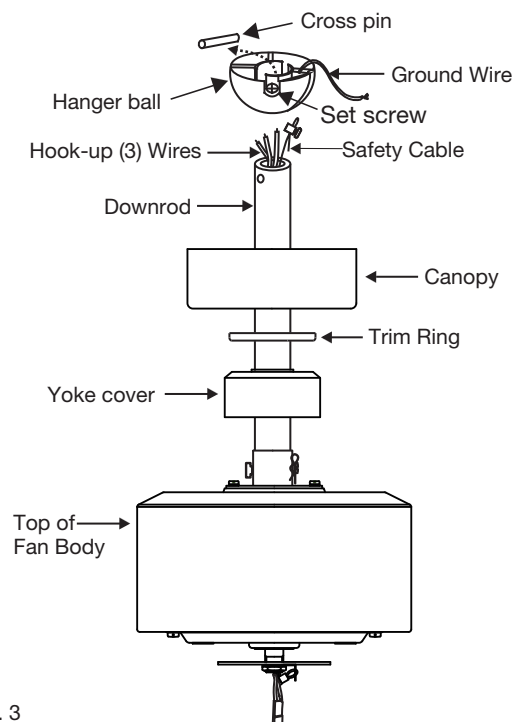

Fig. 3
- 3 Secure hanger bracket to hanger bracket plate using the two hex nuts and washers provided, make sure nuts are securely tighten. (Fig. 3)
- 1 Slip the yoke cover, trim ring and canopy onto the downrod. (Fig. 3)
- 1 Remove one of the three screws on the adapter plate located on the fan motor. Loosen the other 2 screws. (Do not remove) (Fig. 3)
- 2 While holding the LED assembly under your fan, make the polarized plug connections: (Fig. 3)
- 1 Remove the existing wall plate and old switch from the wall outlet box. (Fig. 3)